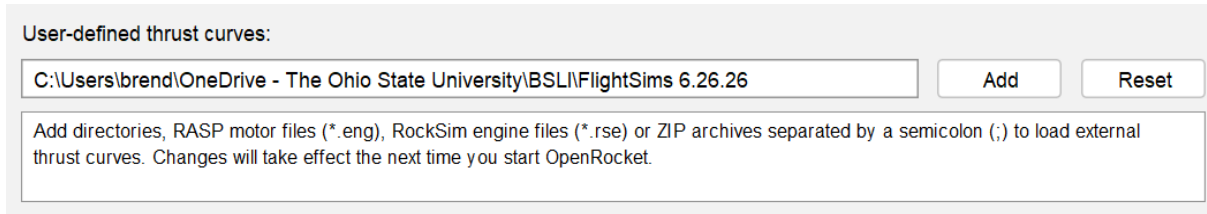

Figure 3: Options for importing user-defined thrust curves.
- Next, ENG files for both the booster and the sustainer motor need to be uploaded. Select [Edit] → [Preferences]. Then, under where it says *User-defined thrust curves*, select [Add]. Then, select the directory that contains the ENG files you want to use and select [Add]. Your screen should now look similar to Figure 3 below. After the correct folder has been selected, select [OK].